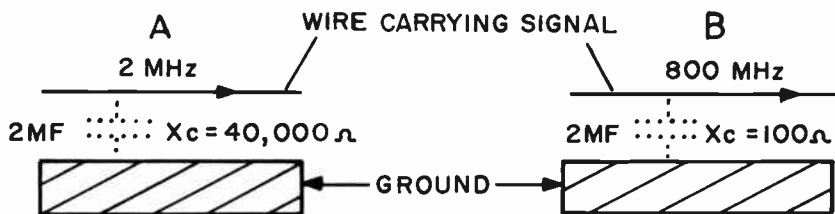

FIG. 19-1. STRAY CAPACITY.
**3\*UHF CONSIDERATION.** Circuits and components operating in the Very High Frequency (VHF) range (30 MHz – 300 MHz) and above behave quite differently than those operating in the lower frequencies. An RF amplifier that operates well at 4 MHz could not operate at 900 MHz by simply changing the values of the tuned circuit components. The wiring, the tubes, the types of capacitors and inductors would all have to be changed. Stray capacitances, which have little effect at low frequencies, are very important at high frequencies. This is shown in Fig. 19-1, which illustrates a wire having a stray capacity to ground of 2 pf. In A, the wire carries a 4 MHz signal and the capacitive reactance is approximately 40,000 ohms. This is sufficient to prevent the signal from being shunted to ground. However, in B, the wire carries an 800 MHz signal and the reactance to ground is only 100 ohms. This means that a considerable amount of the signal will be shunted to ground and lost.